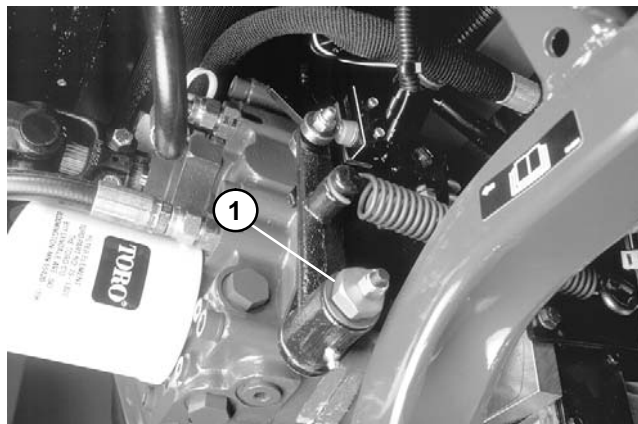

Figure 25
3. Under right side of machine, loosen locknut on traction adjustment cam (Fig. 25).